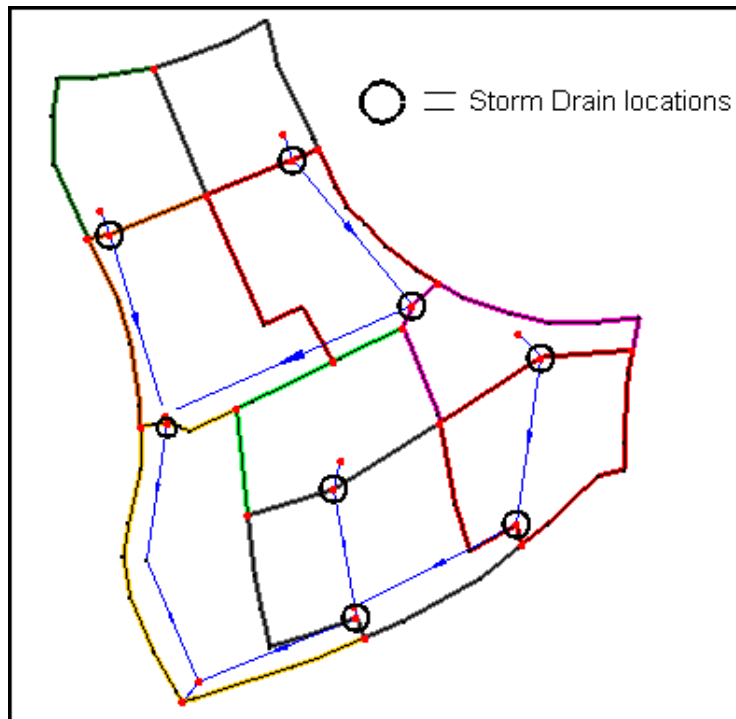

Figure 5-2: Storm Drain node locations.
14. While holding the SHIFT key, select each of the nodes labeled as Storm Drains in Figure 5-2. These points correspond to manhole locations in the pipe network. Be sure to select the nodes that intersect with the basin boundary lines.